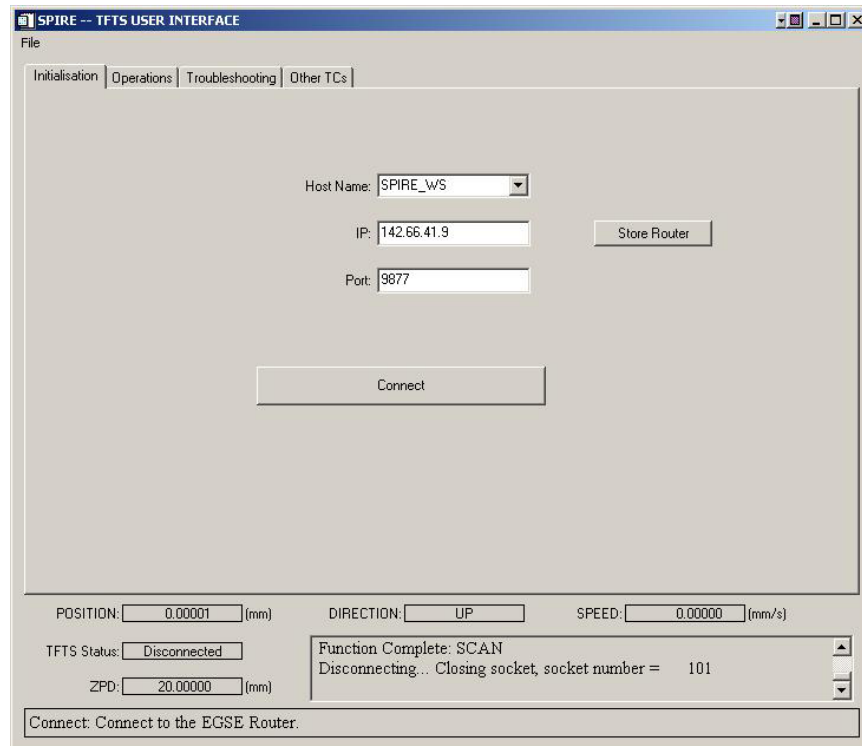

Figure 3 Initialisation Tab
At start-up, the user should see the TFTS User Interface GUI as shown in Figure 3.
5. **Connect to the Router.** A connection between the User Interface and the EGSE Router must be established in order to send commands to the TFTS System. The Initialisation Tab on the User Interface contains data entry fields that allow the user to select the host on which the EGSE Router is running (see Figure 3).